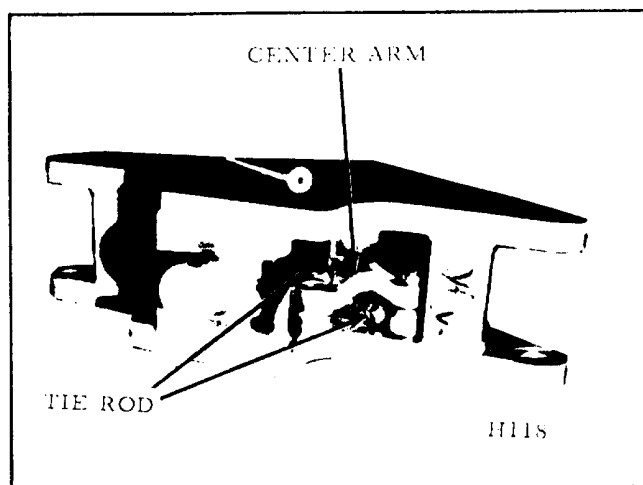

Figure 5.
3. The center steering arm is secured to the axle in the same way as the spindles and it is removed in the same manner. The steering arm is removed through the left hand, front opening in the axle. (Fig. 5) Two spacers are provided on the steering arm, one on either side.